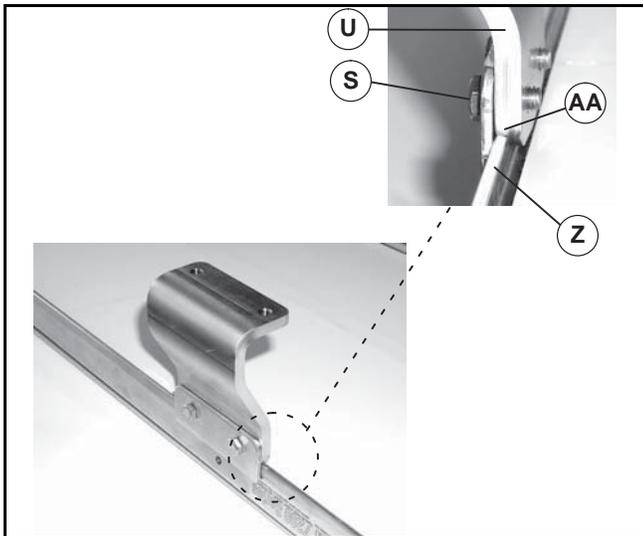

**Figure 9**
Conveyor may be mounted using mounting brackets as shown in Figure 9 and Figure 10 or directly to support stands. For direct support stand mounting, see stand manual.
1. Typical mounting bracket components (Figure 9) (One Pair).
2. Attach clamp plate (Figure 9, item V or W) to stand/conveyor ear mount bracket (U) with two screws (S). Do not tighten screws.